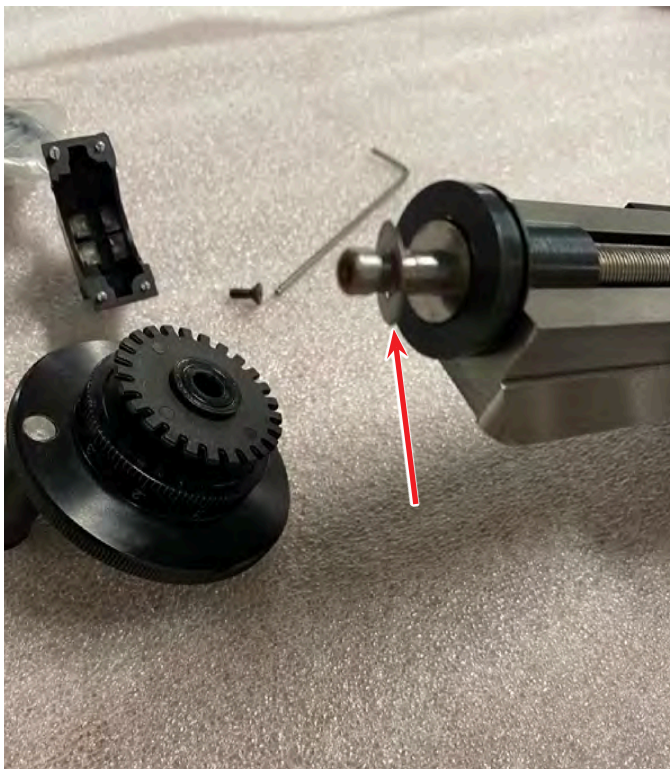

FIGURE 31
4. There may be shim washers on top of the thrust bearing in the leadscrew support. See how many shim washers there are. Remove them and set them aside (see Figure 31).